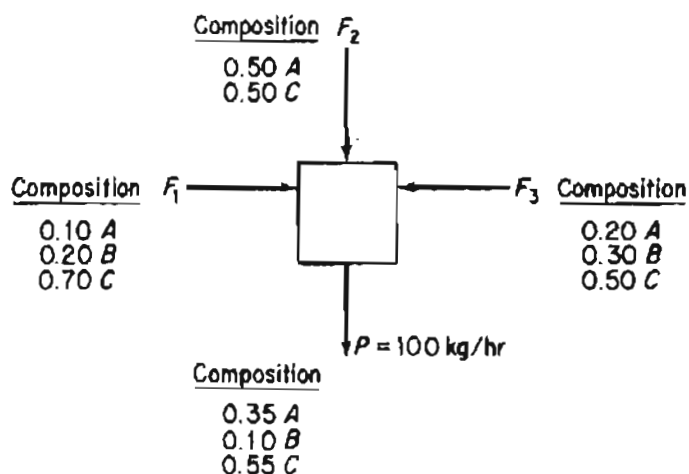

Figure P7.1
- *7.1** For the process shown in Figure P7.1, how many material balance equations can be written? Write them. How many independent material balance equations are there in the set?